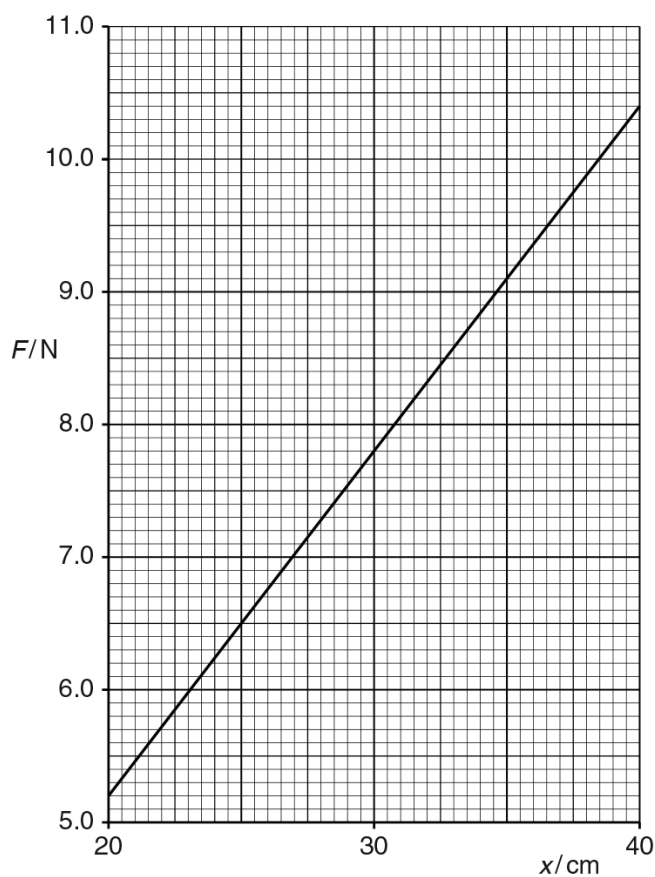

Fig. 4.1
- (b) A spring is extended by applying a force. The variation with extension x of the force F is shown in Fig. 4.1 for the range of values of x from 20 cm to 40 cm.
- (i) Use data from Fig. 4.1 to show that the spring obeys Hooke's law for this range of extensions.
(ii) Use Fig. 4.1 to calculate